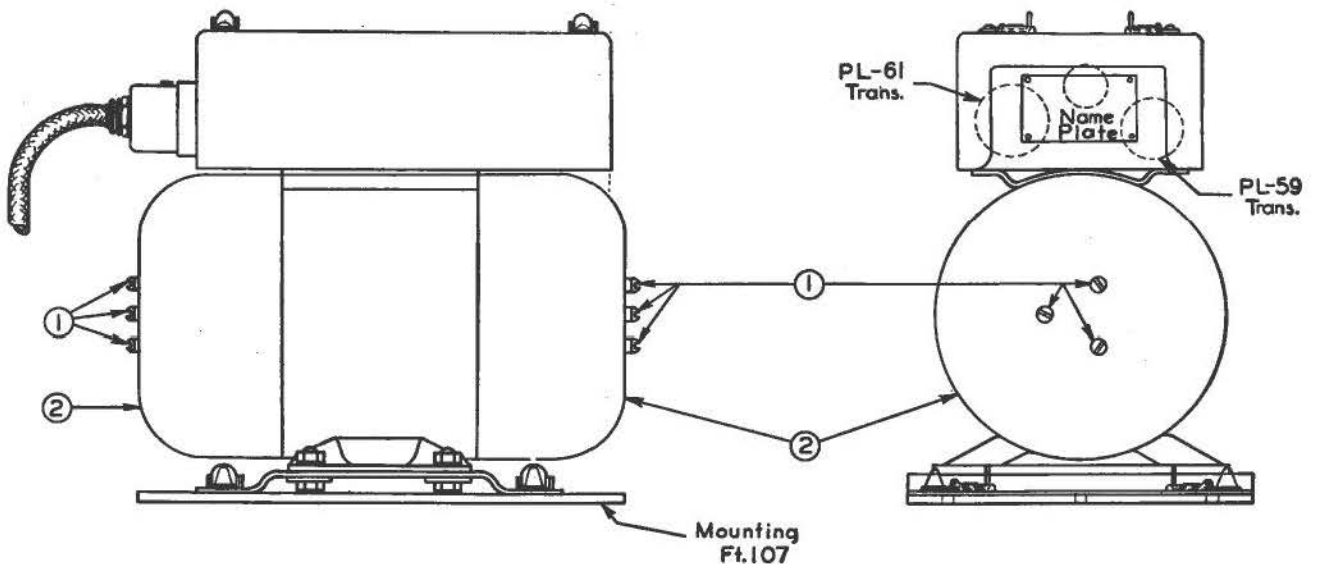

Figure 69. Liaison Dynamotor
- (1) Remove the three "safety-wired" screws (1) on each end of the dynamotor and take off the two end bells (2), See Figure 69.